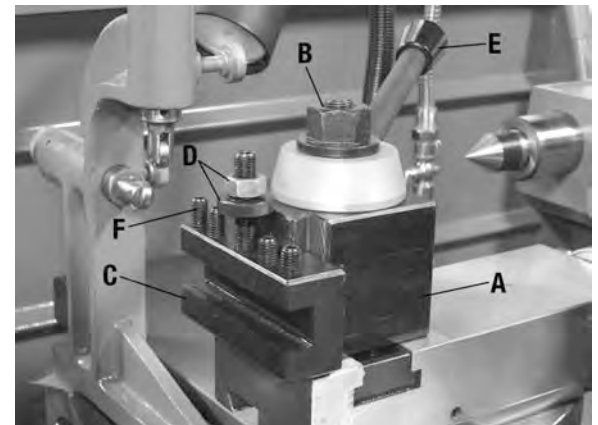

FIGURE 10
The tool post assembly (A) Fig.10 is used to lock the cutting tool into place at the desired height and angle. The tool post can pivot 360° for various cutting situations. To pivot the tool post assembly, loosen lock nut (B) and pivot tool post, retighten lock nut. The tool post comes with a tool holder (C) which can be adjusted to a desired height using the shaft and nuts mechanism (D) to raise or lower the tool holder. Once the height of the tool holder is determined, use tool post lock handle (E) to lock tool holder in place. The tool holder has 4 locking set screws (F) which lock the cutting tool in place.